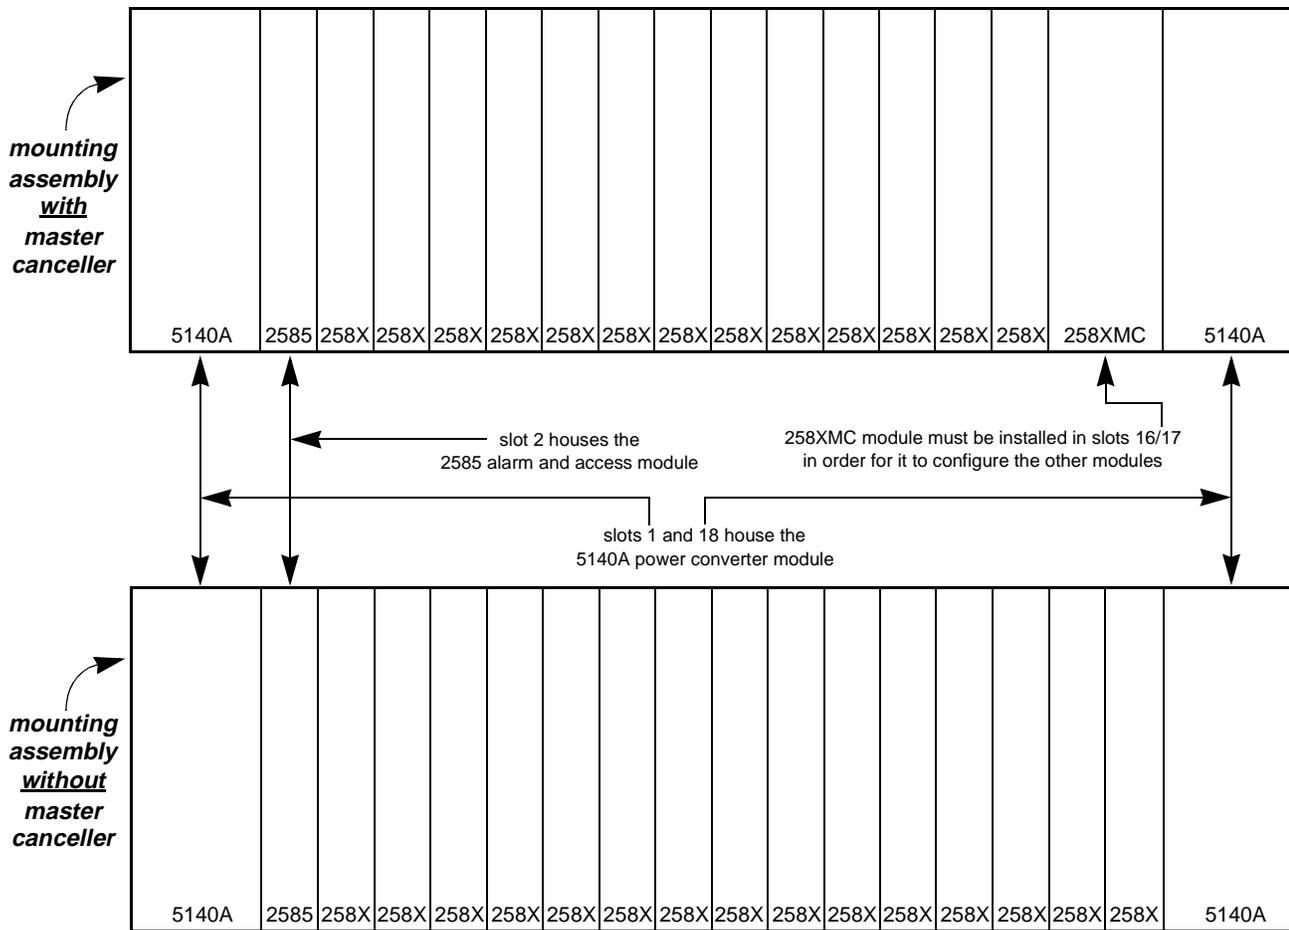

Figure 2-1 Module placement in 258FA mounting assembly
- 2.2 Figure 2-1 shows the location of modules in the 258FA mounting assembly both with and without a master canceller installed.